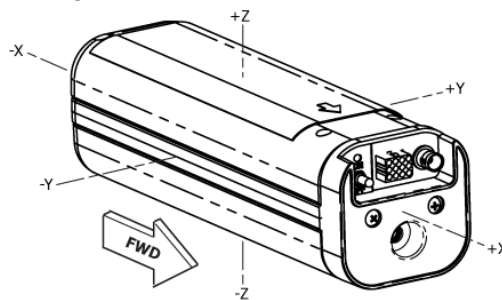

Figure 27 ELT Orthogonal Axes
- 1) ACR Electronics recommends installation of the C406-2HM ELT in helicopters. The C406-2HM ELT is equipped with a 5-axis G-switch module in addition to the usual primary G-switch, which is oriented to the direction of flight. See Figure 27.